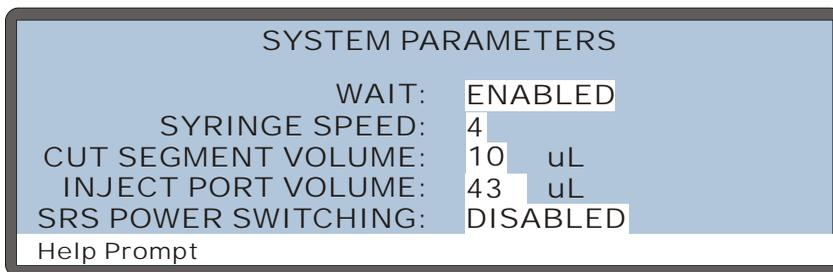

Figure 5-19. System Parameters Screen
38. Press **5** twice to go to the **SYSTEM PARAMETERS** screen (see Figure 5-19).